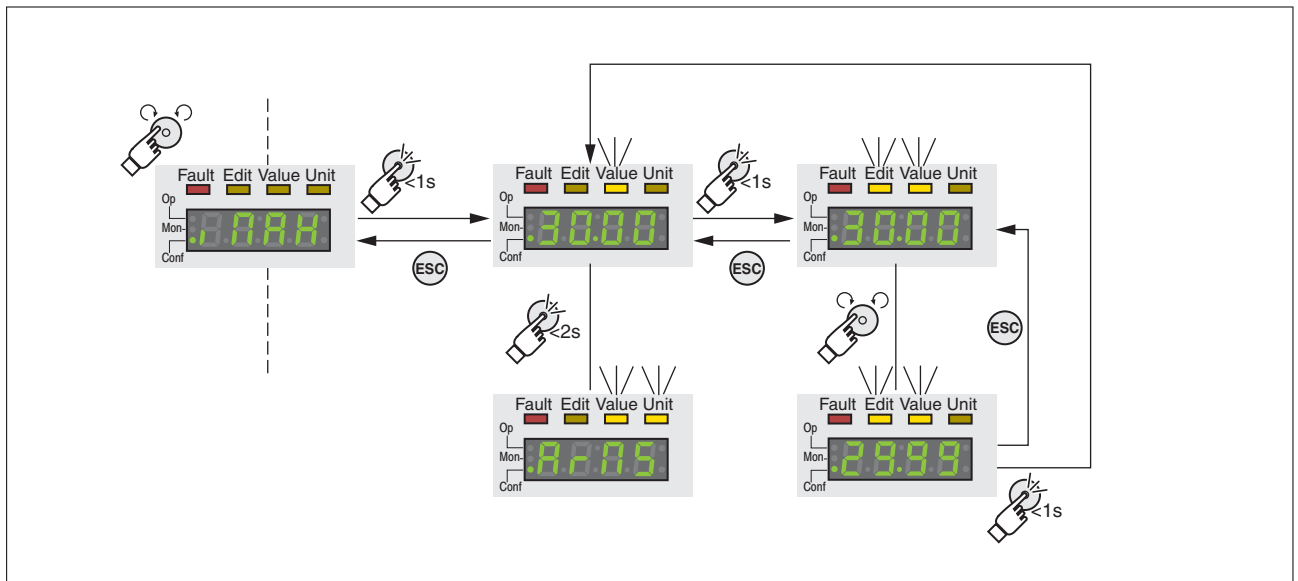

Figure 38: Integrated HMI, example of setting a parameter
- The parameter i_{Max} (iMax) is shown on the 7-segment display, see Figure 38.